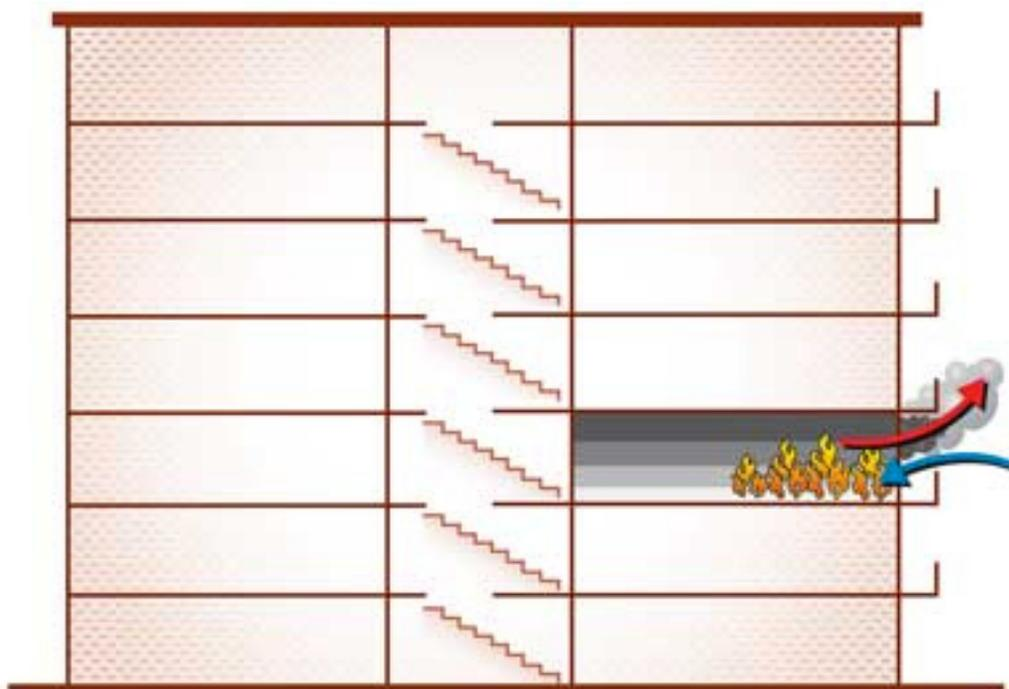

Figure 2. Fire After Opening the Vent
1. Vent is opened. The vent closest to the seat of the fire is opened if it was closed. Shortly after, this will create a bidirectional flow through the window. Depending on the building, you can make vents using a pike pole from ground level, from a ladder, or from an aerial apparatus (Figure 2).